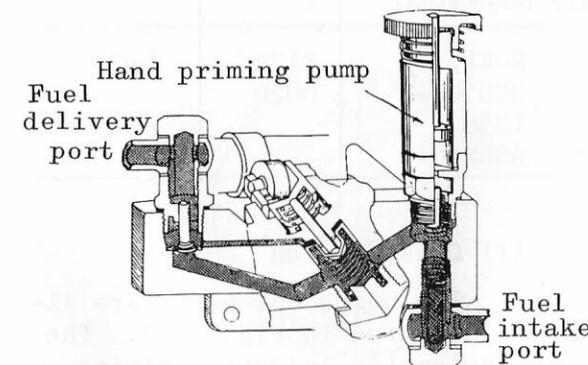

Fig. 9-11
2) As illustrated in Fig. 9-11, the feed pump comprises the major component parts linked with the camshaft of the pump and mechanically operated with the engine and the manually operated pump which may be used for bleeding the air from the fuel system as necessary.